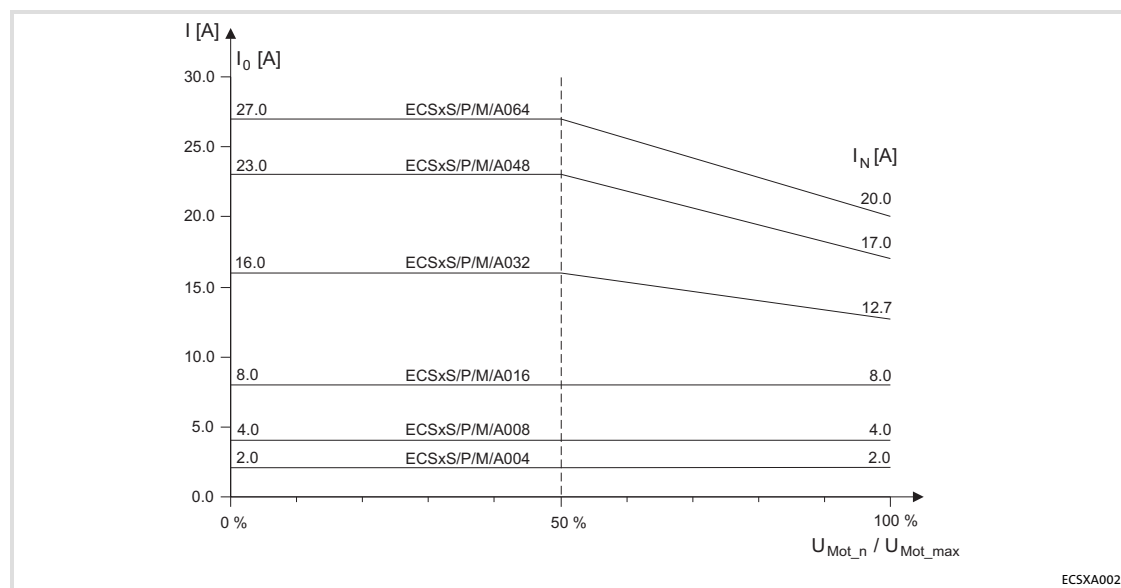

Fig. 3-1 Continuous device current, depending on the output voltage for  $U_{mains} \leq 400$  V at 4 kHz
Using the current characteristic of Fig. 3-1 (36), a continuous current of 15.5 A can be determined for the ECSxA032 axis module when the control factor ( $\alpha_{\text{max}}$ ) is 59 %.